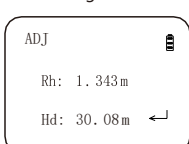

Fig 30
- (6) Then measure Staff A. After data showed up as Figure 30, press SET button to the next step